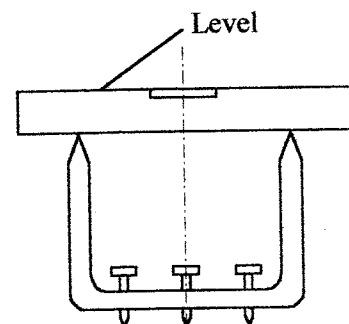

Fig. 3
1. Adjust the balancing stand level (Fig 3).
- When you dress grinding wheel, you have to start from the middle because grinding wheel usually wear more on two sides than in the middle. If you dress from two sides to middle, then, it will produce pressure. (Fig. 3)
(Fig. 3)